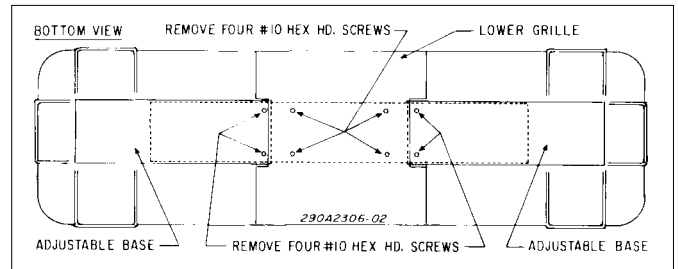

Figure 3.
5. Remove the four #10 hex head screws which secure the lower grille to the adjustable base (see figure 3). Remove the lower grille.
6. Remove the four #10 hex head screws which secure the adjustable base (see figure 3).